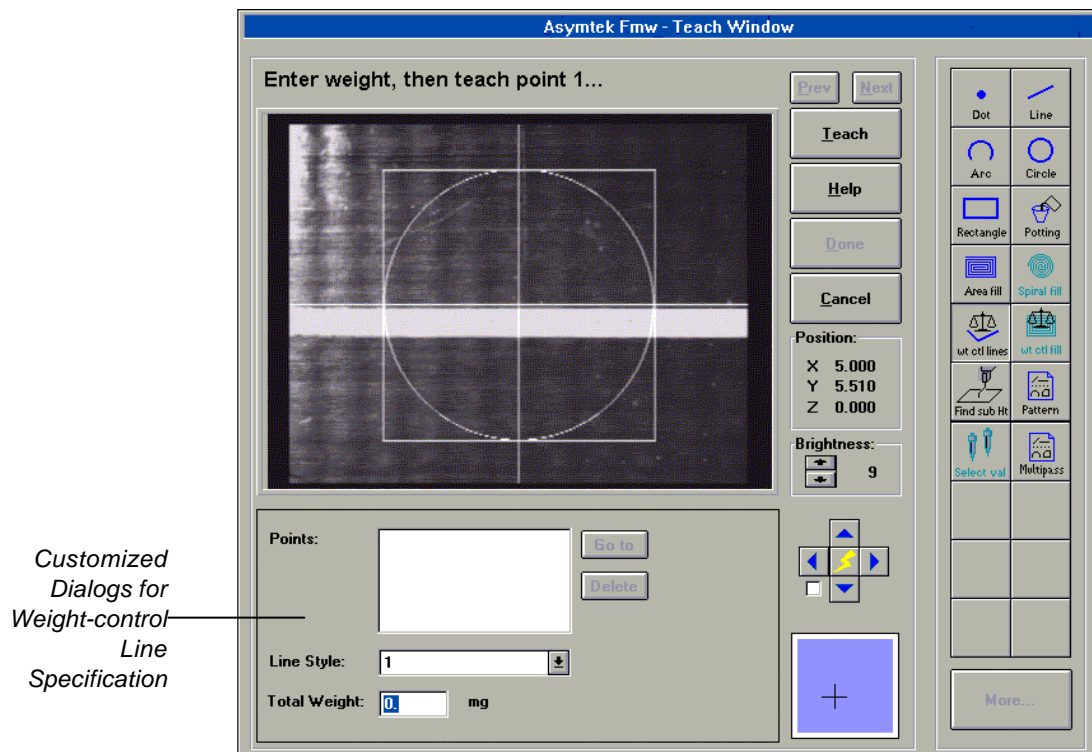

Figure 8-3
- ▶ Notice, as shown in Figure 8-3, that the Teach Window has additional text boxes below the video display specifically for weight control lines.